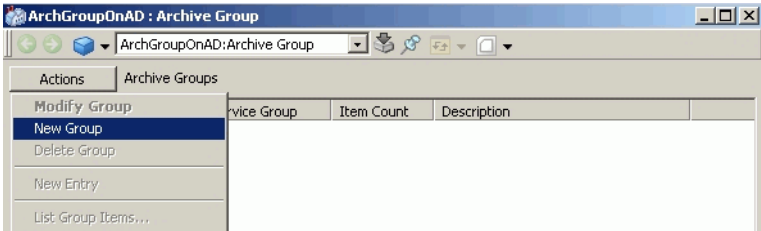

Figure 233. Adding an Archive Group
1. Right click inside the archive groups window (or click **Actions**) and choose **New Group**, Figure 233.